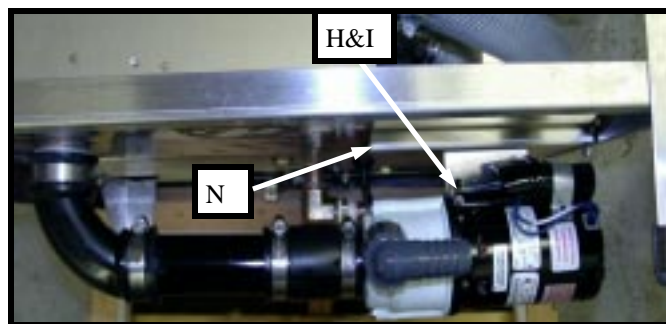

Fig. 2
6- Position the assembly behind the scrap box. Insert the tip of scrap box discharge tube in elbow (C) while matching slatted holes on pump bracket (D) with those on electrical box slide base (N). Align and Secure assembly with provided nuts and bolts (H&I) as shown in Fig. 2. Care should be taken to route the drain hose (Not provided) straight to the back of the machine, and up about two feet to the wall drain. This will allow enough water to be returned back to the pump head after drain cycle preventing possible cavitation. All hose clamps and nuts can be tighten at this time.